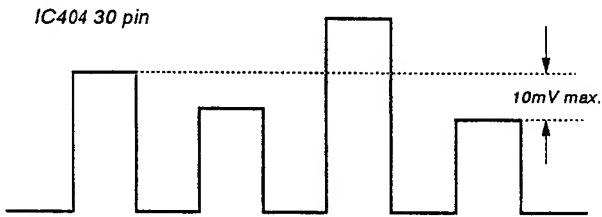

Fig. 16
- 4) Using **[CHROMA NTSC 358 NOR]**, adjust so that the tops of the waveform line up as in the diagram below. (Fig. 16)
- 2) Adjust **[CHROMA NTSC 358 ACC OFF]** in the same manner as 8.-4 above. (Fig. 16)